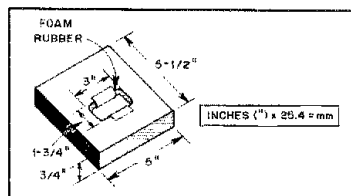

Fig. 5 — Construction details for the desk-top holder. Dimensions can vary to fit the shape of your radio.
□ This desk-top holder for my Kenwood 2400 has been a handy item. The base is made of 3/4-inch pine. The hole for the radio is cut with a saber saw. Strips of foam rubber are glued to the front and back of the opening to provide a secure fit. Rubber feet are added for additional stability. Fig. 5 shows construction details. — *G. Stewart King, KF8S, Tipp City, Ohio*